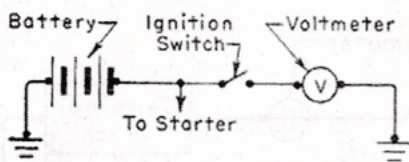

Fig. 10. Voltmeter (Battery Gauge) Circuit Diagram
The voltmeter shown in Fig. 10 will not register changes in line voltages quickly, as it is necessary for the bimetal to become heated before the pointer will move. If the instrument is found to be at fault, a new one should be installed, as it is not practical to attempt repairs.
b. Registers Incorrectly. To test the accuracy of the voltmeter, connect an accurately calibrated test voltmeter from the battery side of the voltmeter to ground (Fig. 10). Turn the ignition switch on and compare the readings of the two instruments.